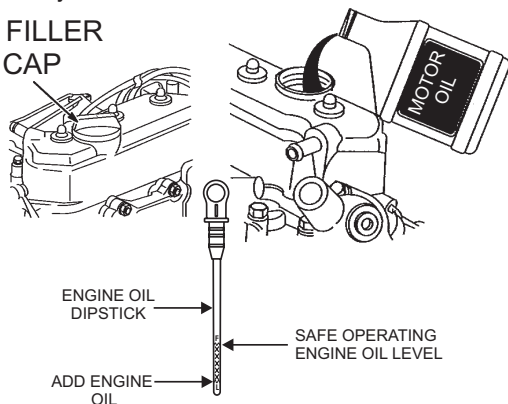

Figure 11. Adding Engine Oil
2. Remove the oil filler cap (Figure 11), and fill engine crankcase with recommended type oil as listed in Table 4. Fill to the upper limit (F) of dipstick.